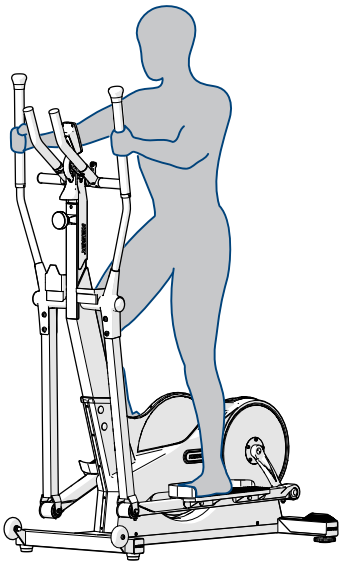

Figure 13. Total Body Training Exercise Position
**Total Body Training** (Figure 13) engages the upper and lower body for cardiovascular and pulmonary endurance, as well as for strength and power conditioning.